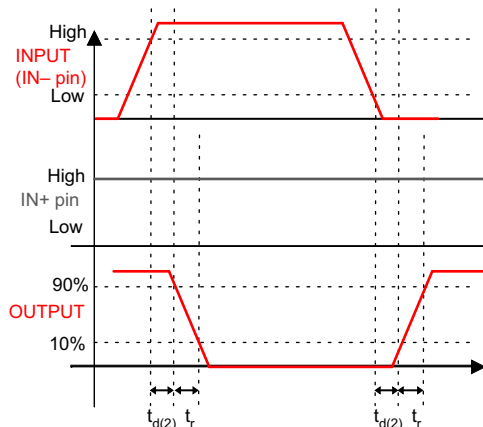
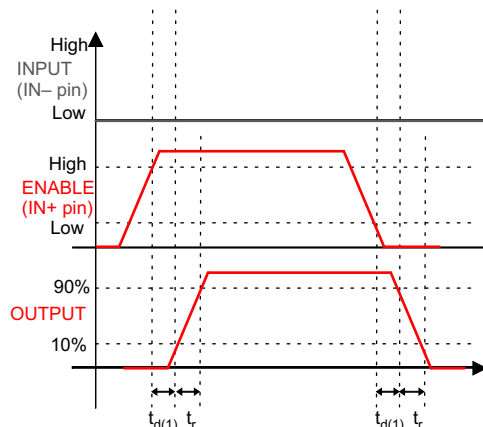
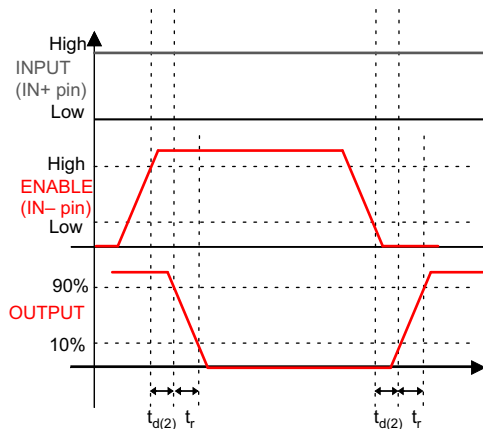

Figure 2. Inverting Configuration
Figure 3. Enable And Disable Function Using IN+ Pin
Figure 4. Enable and Disable Function Using IN- Pin
$V_{DD} = 12\text{ V}$, $T_A = -40^\circ\text{C}$ to 140°C , $1\text{-}\mu\text{F}$ capacitor from V_{DD} to GND. Currents are positive into, negative out of the specified terminal. See Figure 1, Figure 2, Figure 3, and Figure 4
(1) See timing diagrams in Figure 1, Figure 2, Figure 3, and Figure 4.